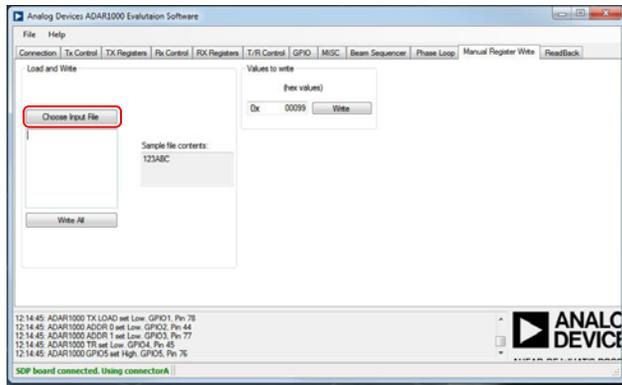

Figure 21. Manual Register Write Tab
1. Click the **Manual Register Write** tab (see Figure 21).
8. For receive mode operation, click the **Manual Register Write** tab (see Figure 21) and click **Choose Input File** to choose the **RX1_MaxG_45.txt** file for the register values. Note that this file (and the similar settings files) does not change any of the GUI settings. The file only writes data to the ADAR1000.